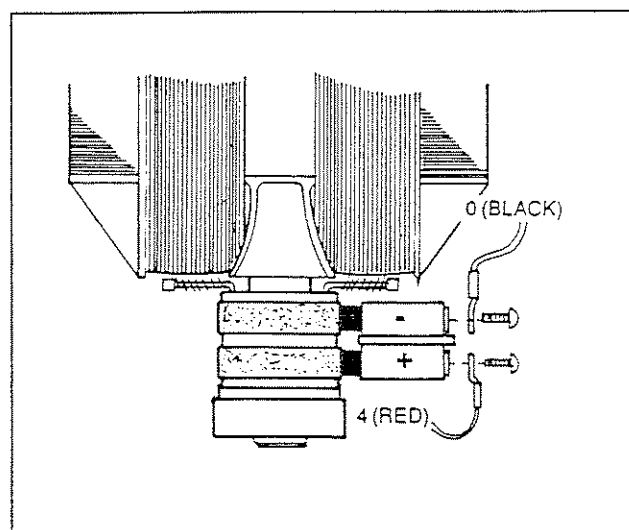

Figure 4. Checking Brushes and Slip Rings
1. See Figure 4. Carefully inspect brush wires, make sure they are properly and securely connected.